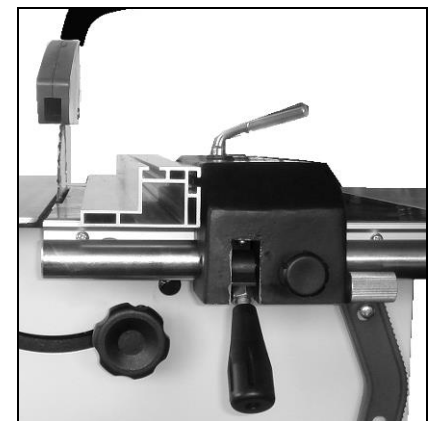

Fig 18
-The cutting of small work pieces (width less than 120mm) shall only be performed with the rip fence profile placed flat (Fig 18).